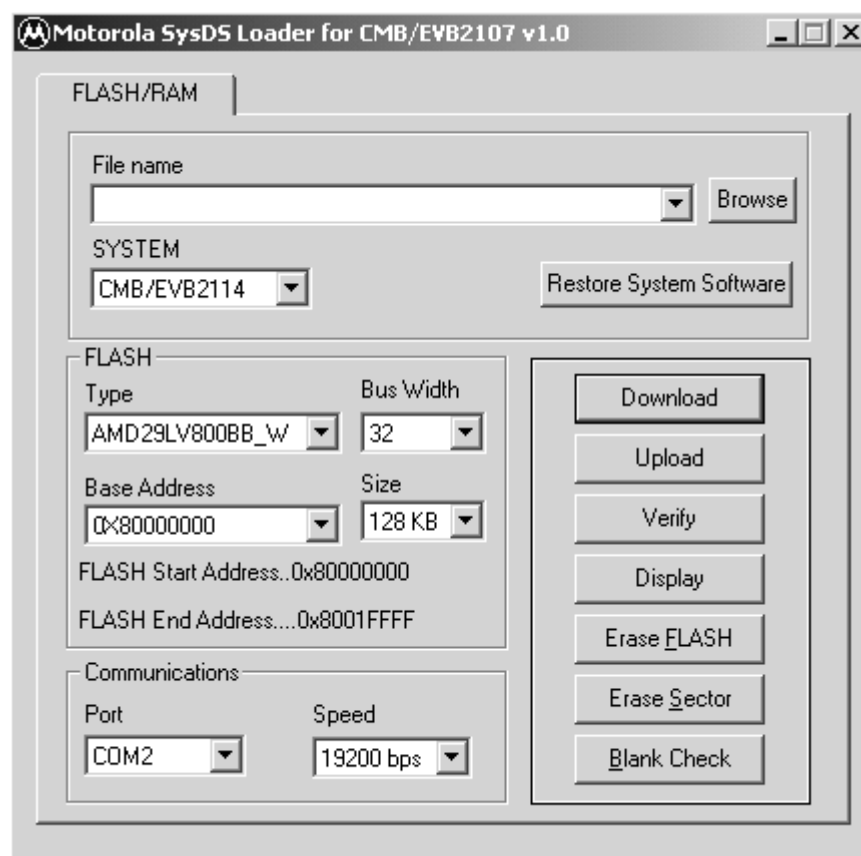

Figure 3-4 On Board SysDS Loader Version Main Screen
5. Double-click the loader.exe file. SysDS Loader starts and the main screen appears as shown in Figure 3-4.